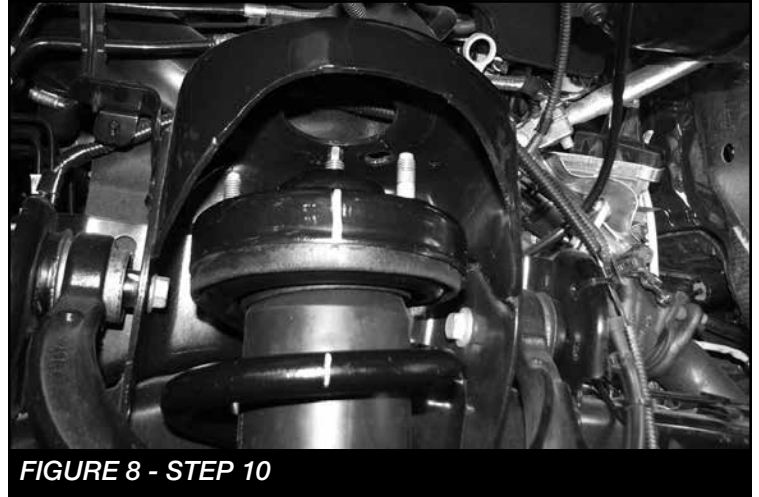

FIGURE 8 - STEP 10
10. Locate the three upper coilover nuts and remove. Save the hardware. Remove the shock assembly from the vehicle and mark "Driver" for assembly to install later with Fabtech shock extensions. **NOTE: If installing Dirt Logic coilovers the factory coilover and hardware will not be re-used. SEE FIGURE 8**